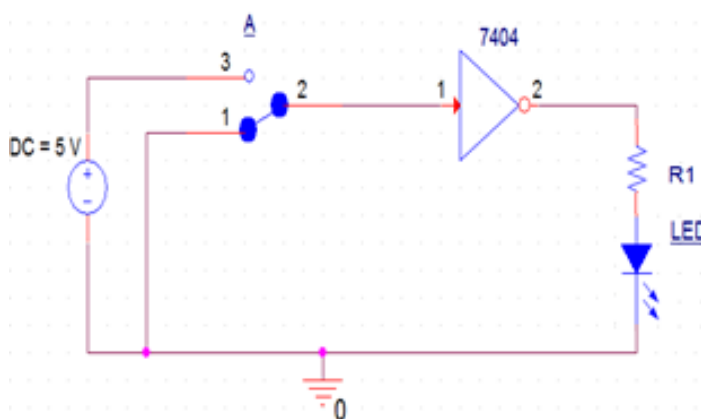

Figure 2.5 - Schematic of NOT gate
2. Figure 2.5 shows the schematic diagram for this experiment.